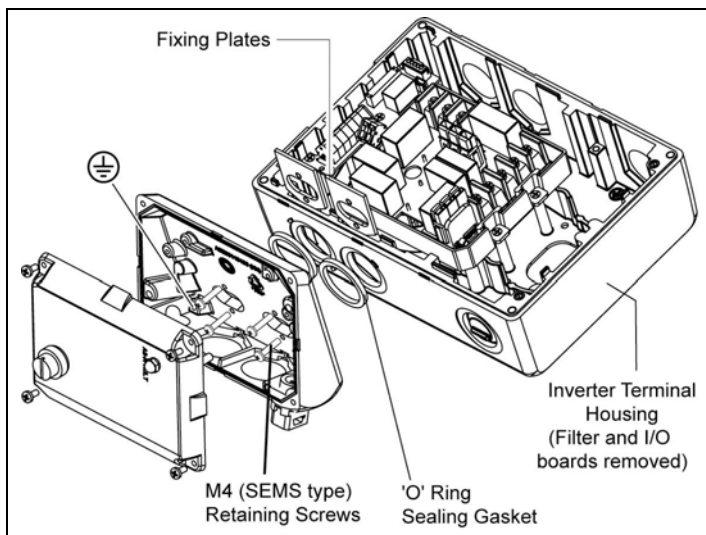

Figure 2-6 AS-i Module Fixing to Inverter
The AS-i Module **MUST** be mounted on the inverter on the opposite side to the Rating Label (see Figure 2-6).
3. Insert the “O” ring sealing gaskets (see Figure 2-6). Gaskets should be placed in position adhesive-side to the inverter.
5. Align the Options case with the Fixing plates (See Figure 2-6).
7. Using the U-clamp and M4x10 screw, connect the earth lead (attached to the fixing plate) to the earth stud (shown as ⊕ in Figure 2-6 above) within the module housing.